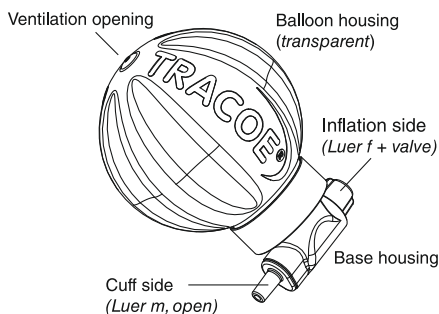

Fig. 1: Components and connectors of the TRACOE smart Cuff Manager
The TRACOE smart Cuff Manager includes a spherical, hard shell (transparent) outer casing with an elastic inner balloon (blue), which is attached to a base housing with both a male and female luer connector (figure 1). This device is designed to ensure that the endotracheal/tracheostomy tube cuff pressure remains within the range of 20 cmH2O to 30 cmH2O while in use. This range is achieved through passive control, with the inner balloon (blue) of the device acting as a pressure reservoir allowing the flow of air between the balloon and the endotracheal/tracheostomy cuff to maintain the pressure range.
**CAUTION:** The damping function of the inner balloon is only effective in one direction to allow inflation or monitoring of the endotracheal/tracheostomy cuff pressure and therefore, it is not active when a cuff pressure monitor or syringe is inserted in the luer -connector (on the inflation side of the device (figure 1).
The elastic inner balloon (blue) is located inside a spherical hard shell (transparent) outer casing. This inner balloon is connected to the base housing (white), which has two luer-connectors (figure 1):
This female luer connector has an incorporated self-sealing valve which prevents air flow upon removal of a syringe or pressure measuring unit, see figure 1.